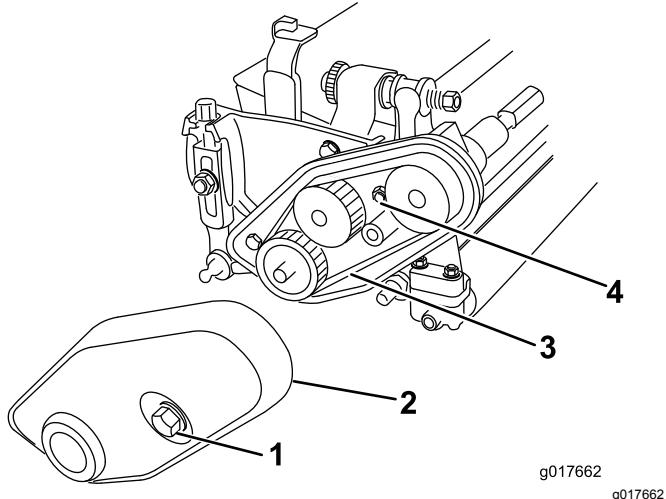

Figure 4
1. Loosen the captive bolt securing the belt cover to the left end of the cutting unit until you can remove the cover (Figure 4).
2. Loosen the belt tensioning nut and remove the belt (Figure 4).